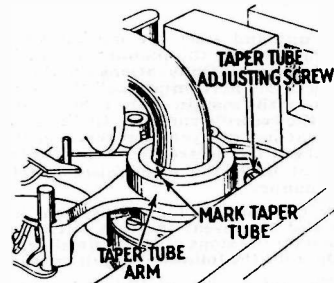

Fig. 11
1. Etch a mark across the gold plated portion of the base of the tone arm and taper tube arm as shown in Fig. 11, so as to mark the position of these two parts with relation to each other. The replacement can thus be made with a minimum of adjustment.
- d. Remove the three (3) screws (one of which is shown in Fig. 11) on the base of the tone arm.